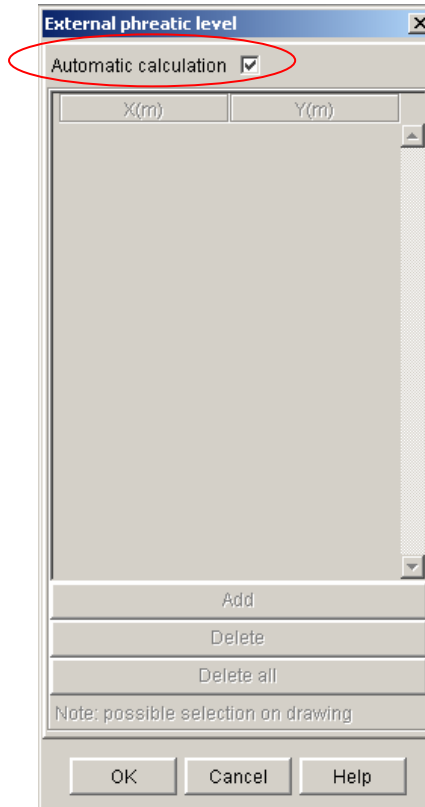

Figure 67: definition of the external preatic line
- An external water level should also be defined here. Activate the checkbox “Define an external water level”, then click on the button [Define an external water level]. In the dialogue box that pops-up (Figure 67), activate the checkbox “Automatic calculation” (the external phreatic line will be calculated depending on the relative positions of the groundwater level and of the groundlevel).